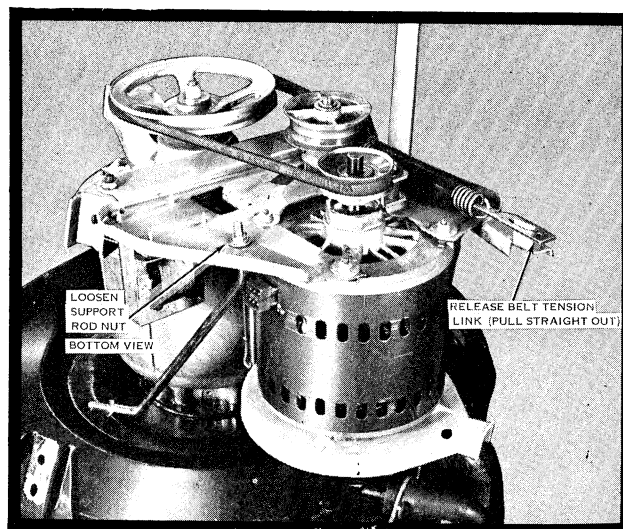

Figure 66
- f. Release the belt tension link (idler models) clutch models loosen three motor bolts, *Figure 66*.